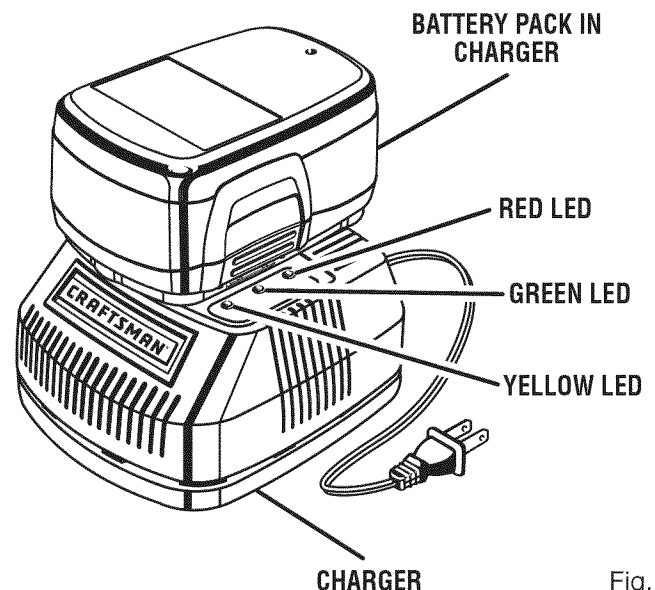

Fig. 2
- Place the battery pack in the charger aligning raised rib on the battery pack with the groove in the charger. See *Figure 2.*